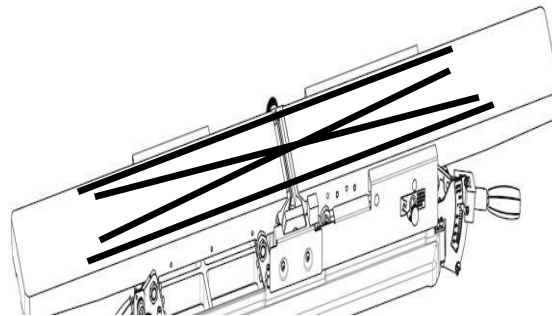

Figure 42: Checking Bed Alignment
STEP 3: Place straight edge in positions shown in **FIG. 42**.